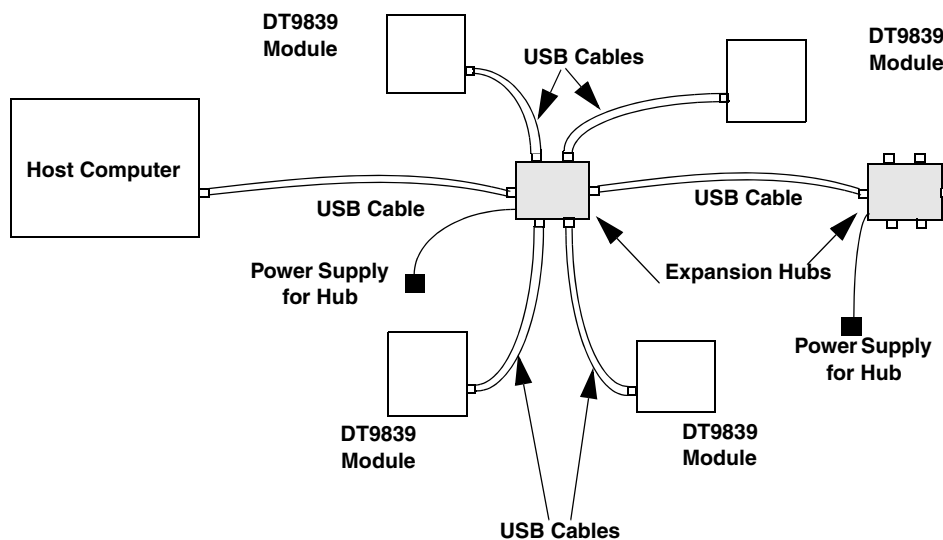

Figure 5: Attaching Multiple Modules Using Expansion Hubs
5. Repeat these steps until you have attached the number of expansion hubs and modules that you require. Refer to Figure 5.